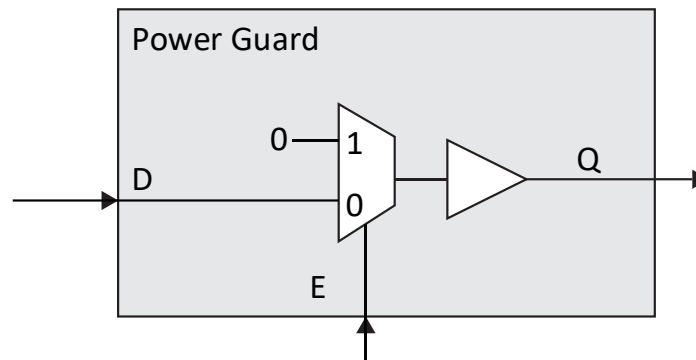
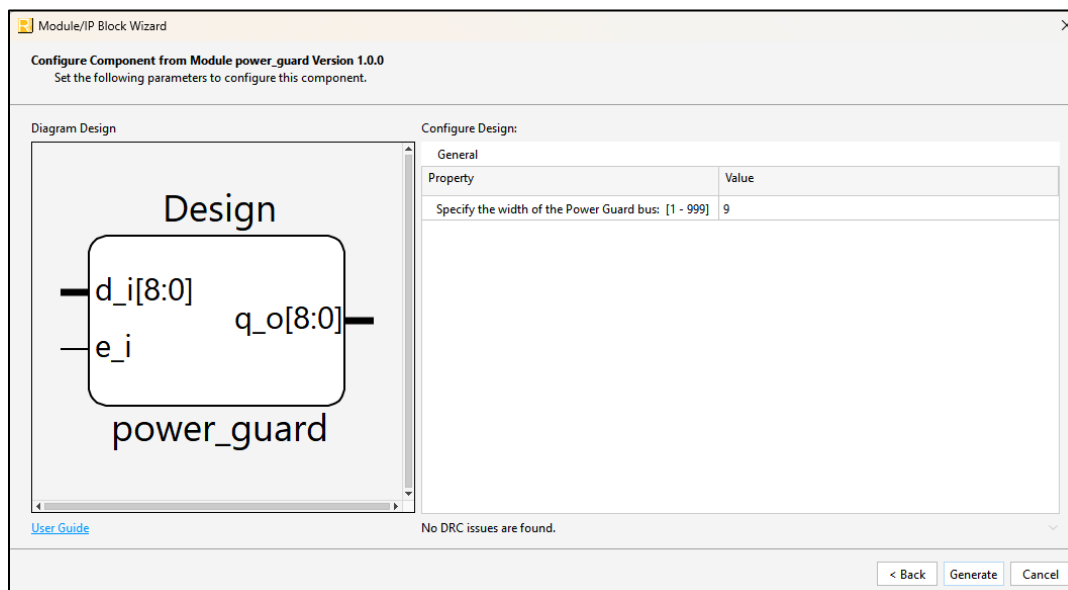

Figure 7.1. Power Guard Primitive
Figure 7.2. IP Catalog Power Guard
The Power Guard (PG) feature minimizes dynamic power consumption on routing by gating signals at the input pin. To prevent this loss, especially on large fan-out or heavily loaded nets like clocks, inputs can be *Power Guarded*. Power Guard prevents logic from getting on nets using an active high control signal. The Power Guard primitive component, as shown in Figure 7.1, can be included in your clock or data paths. For large buses, IP Catalog can be used as shown in Figure 7.2.